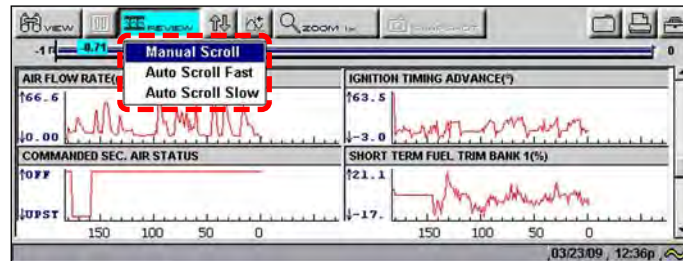

Figure 5-42 Sample Review dropdown menu
1. With the **Review** button selected, press **YI✓** again to display a dropdown menu of options (Figure 5-42).